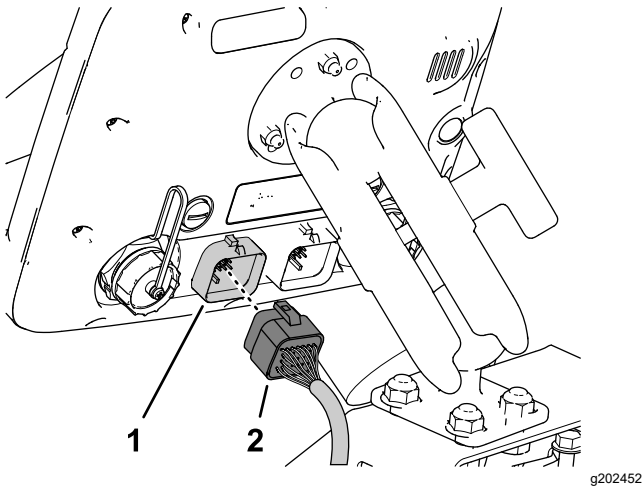

Figure 177
2. Align the 26-socket connector of the data harness with the 26-pin connector of the control console and press the socket connector into the pin connector until the latch of the connector snaps securely (Figure 177).